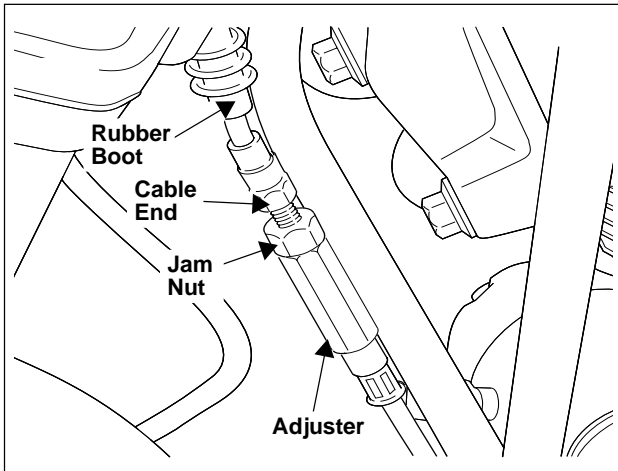

Figure 1-19. Clutch Cable Adjuster Mechanism
2. See Figure 1-19. Slide rubber boot upward to expose adjuster mechanism. Loosen jam nut from adjuster. Turn adjuster to shorten cable housing until there is a large amount of freeplay at clutch hand lever.
- b. See Figure 1-19. Set freeplay by turning adjuster.